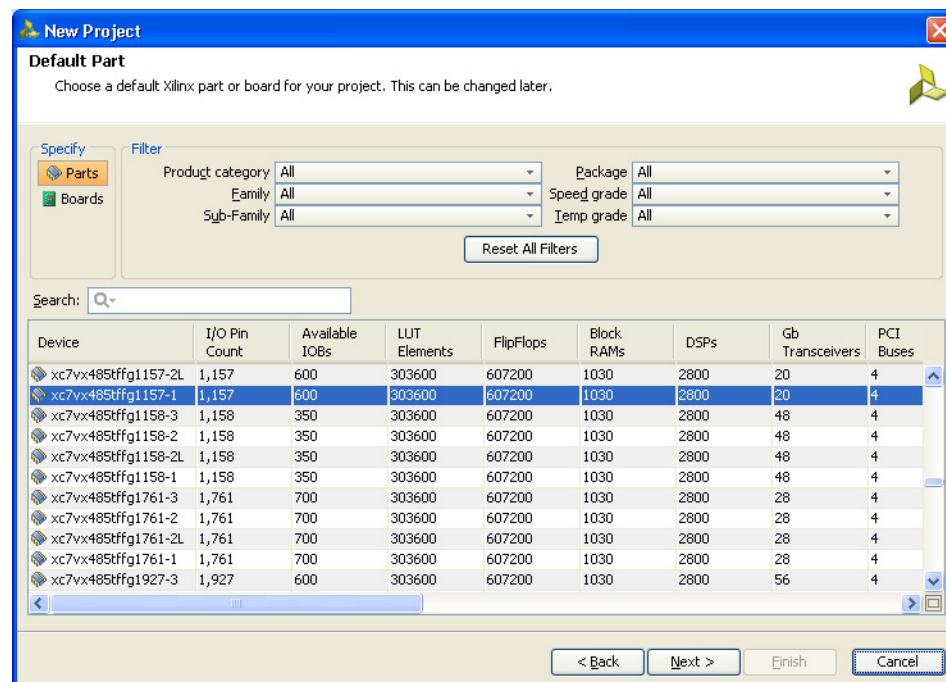

Figure 5-8: Default Part (Default Window)
8. Click **Next** to proceed to the Default Part page (Figure 5-8) where the device that needs to be targeted can be selected. The default Part page appears as shown in Figure 5-8.